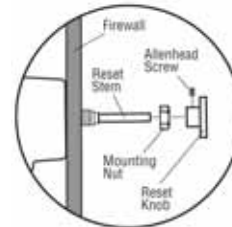

Figure 2
2. If installing the RP75 to an engine compartment firewall, drill a 37/64 in. (15 mm) diameter hole in the firewall (see **Figure 2**).